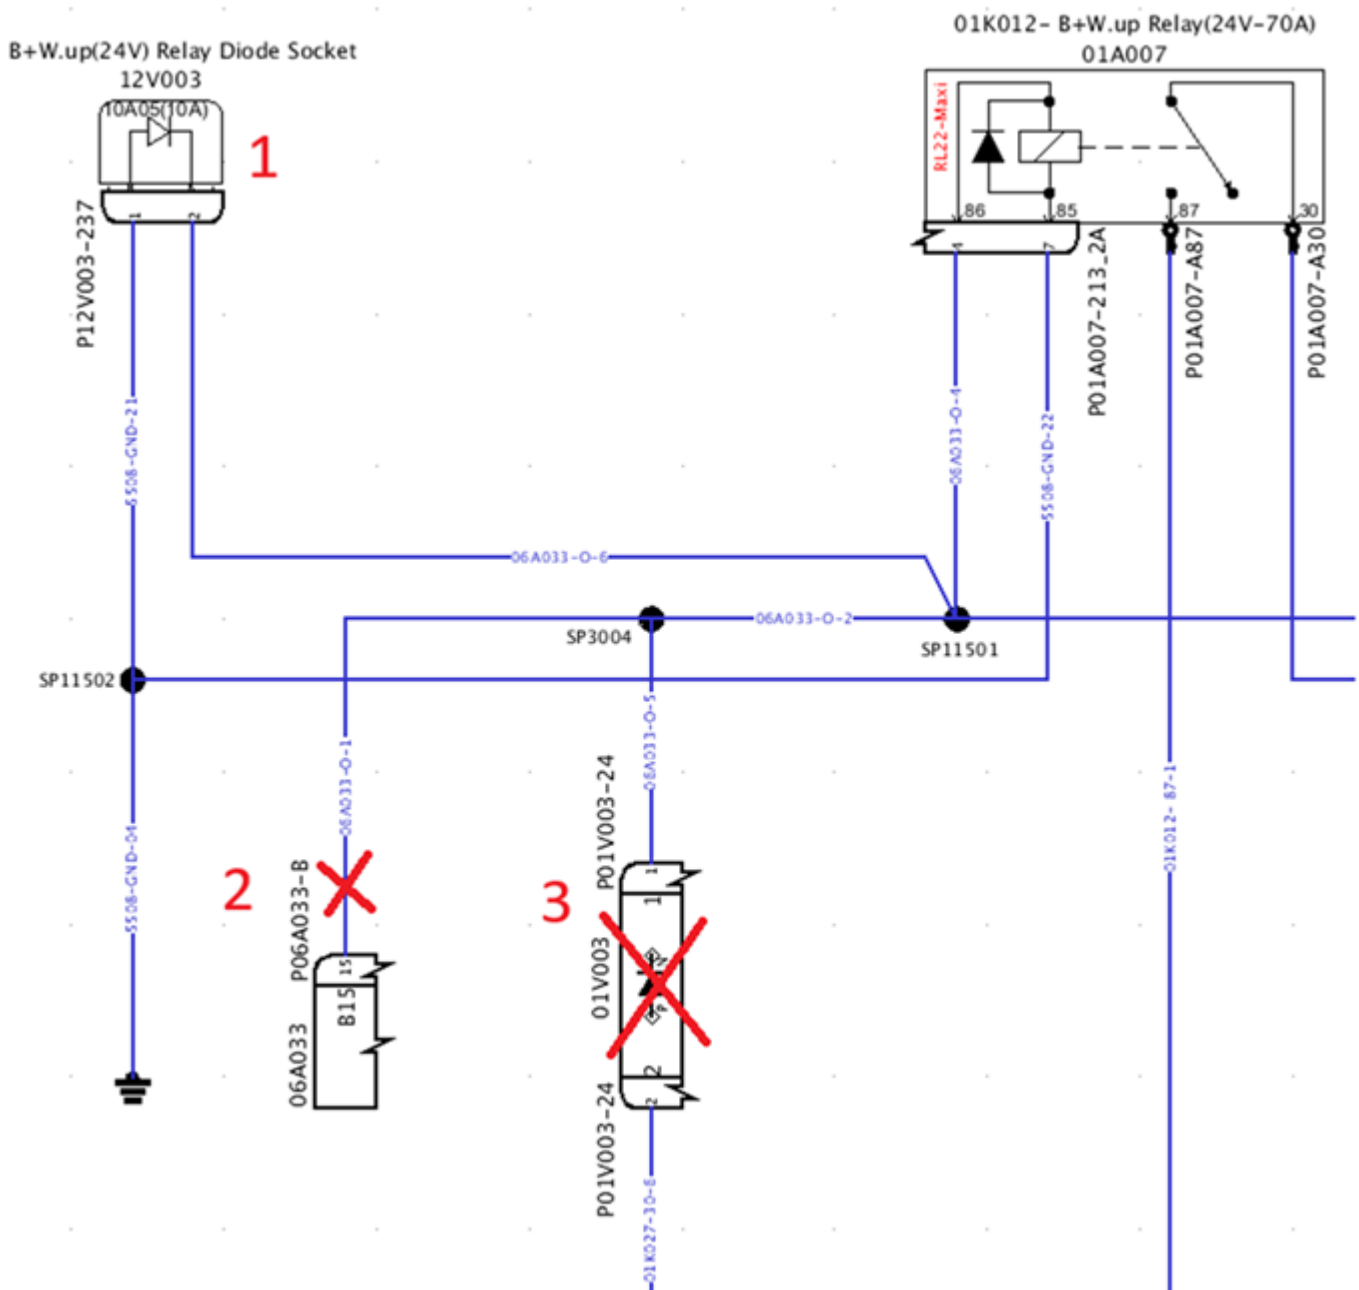

Figure 1.1 Existing Diagram
2.) Step 1: Check the diode on the “P12V003-237” socket. If there is no diode on this pin, you should add the diode that in the part list , as “Figure 1.1”.
Step 2: Remove the cable on pin B15 in the P06A033-B socket on the front relay panel. Blind and insulate the removed cable with electrical tape “Figure 1.1”